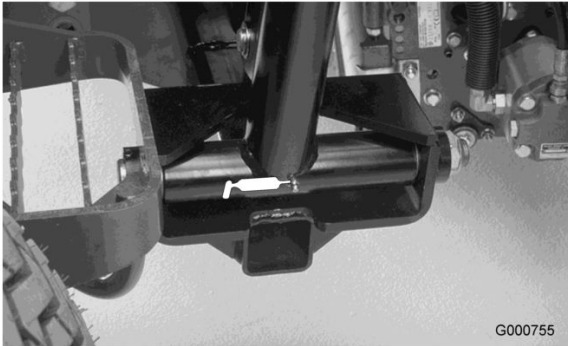

Figure 47
- Lift arm pivot (3) (Figure 47)